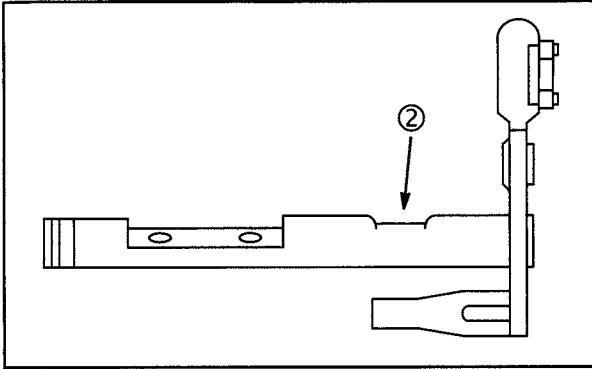

Fig. 42
2. Inspect throttle shaft and choke shaft for wear (2), **Fig. 42.**